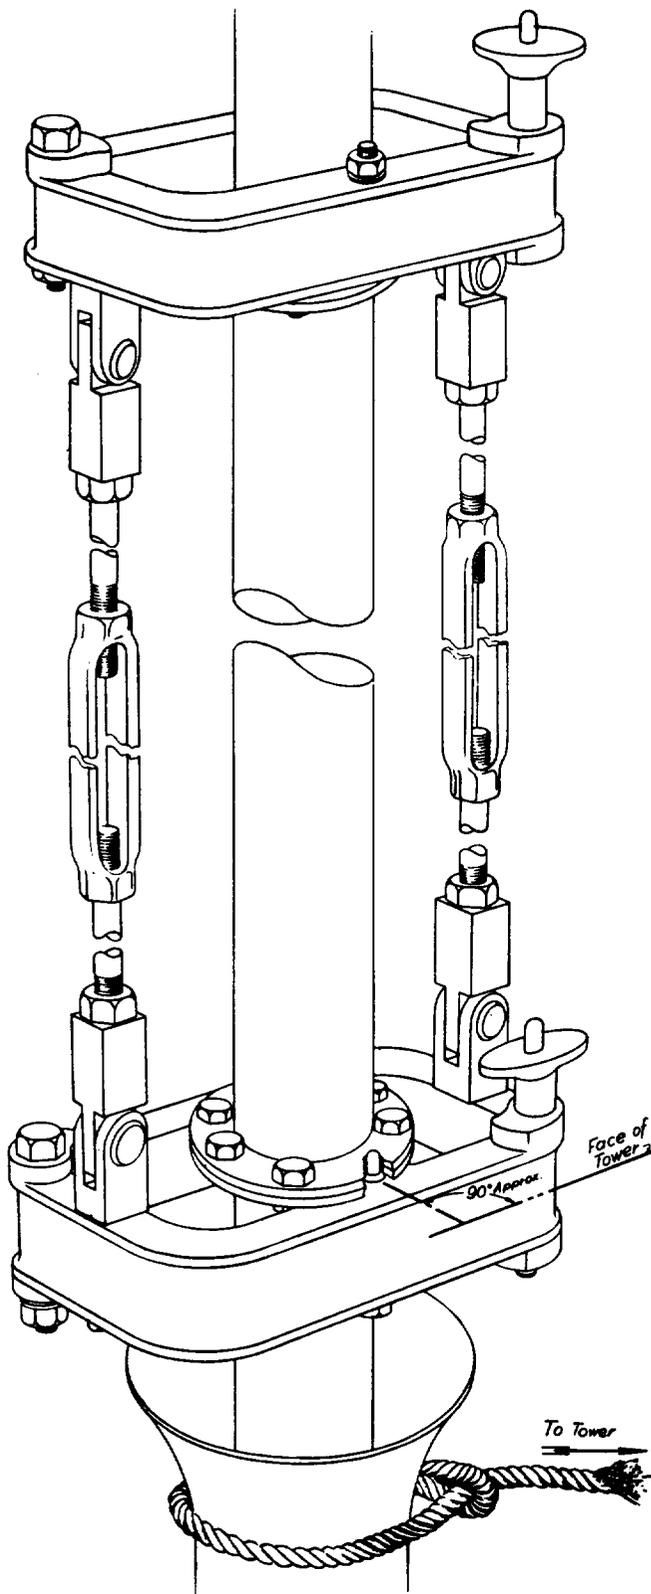

Fig. 1 - Replacing Damaged Waveguide
4.01 Replacing damaged 3-inch circular waveguide will be accomplished by using a "B" waveguide replacer. When the use of this tool is impractical, special rigging will be required to support the waveguide run. Cases of this nature shall be referred to supervision for appropriate action. The "B" waveguide replacer consists of the following items, see Fig. 1.
4.06 Assemble the split frames (see Fig. 1) with rods and turnbuckles, above and below the flanges of the adjacent sound waveguide sections.